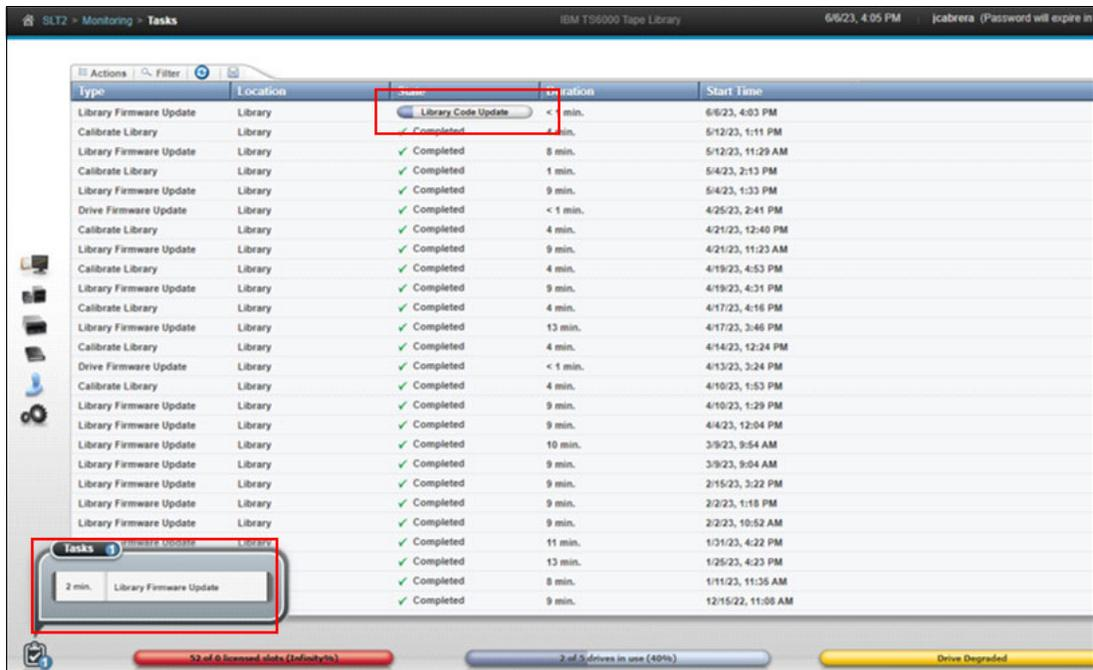

Figure 5-20 Firmware update status
- 4. The firmware will download to the IBM Diamondback Tape Library, this download can take a few minutes. When finished, the update starts and the Tasks pod, which is at the lower-left corner of the System page, indicates that the firmware update task is in progress. Monitor the status of the update from the Tasks page by selecting **Monitoring Tasks**, as shown in Figure 5-20 on page 68.